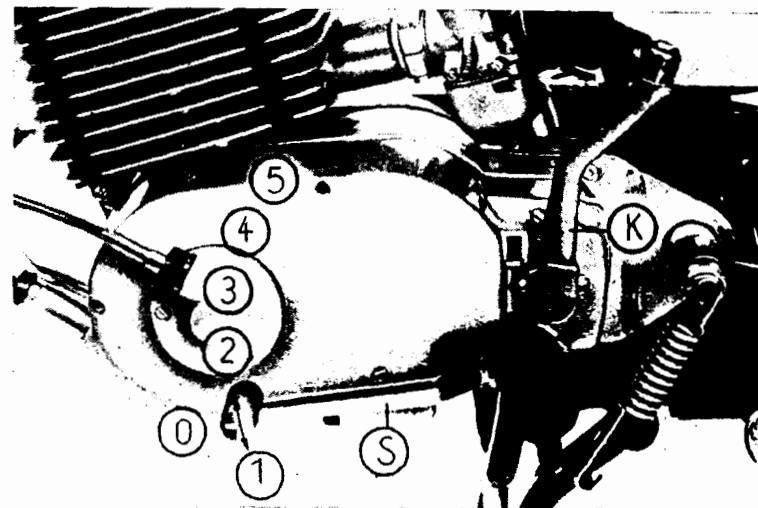

Fig. 6. Gearchange pedal
1. Shift the gearbox to neutral position (Fig. 6).